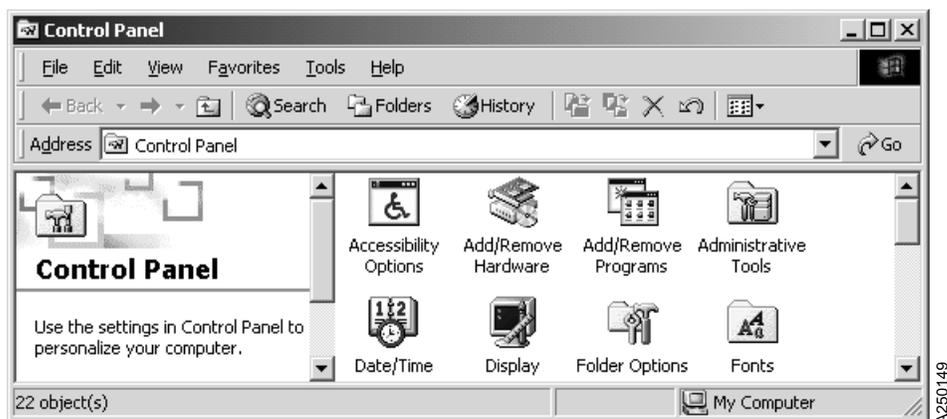

Figure 37. Control Panel Menu
2. Double-click **Add/Remove Hardware** on the **Control Panel**. See Figure 37.